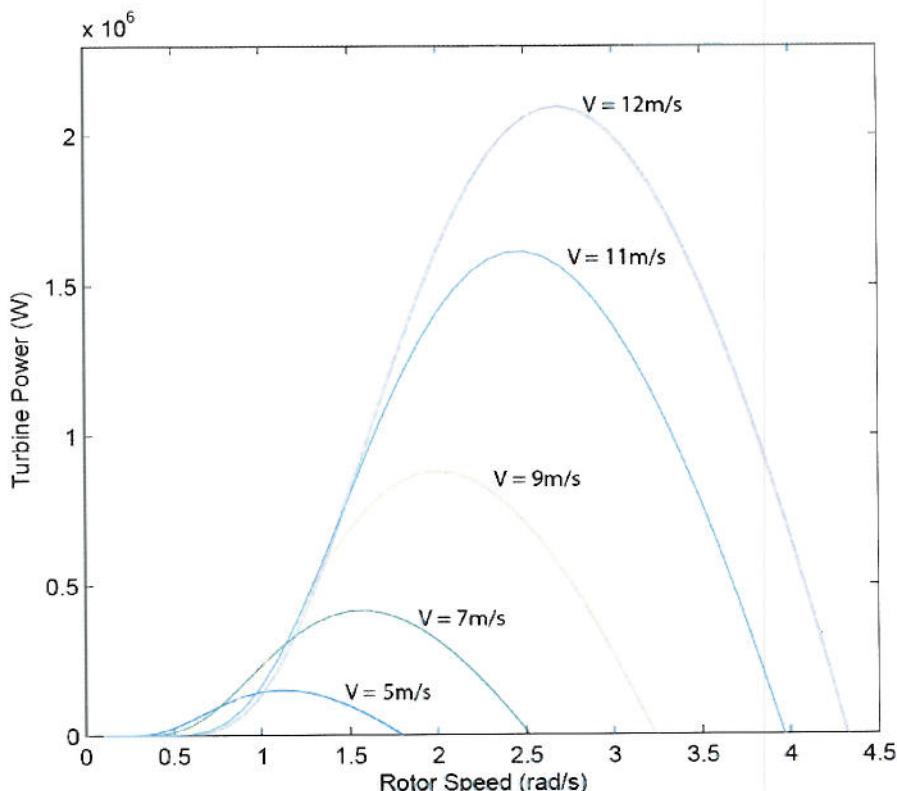

Figure 1.1, Turbine power against rotor speed
- iii) Estimate the tip speed ratio required to achieve maximum power for the turbine in figure 1.1. [2]